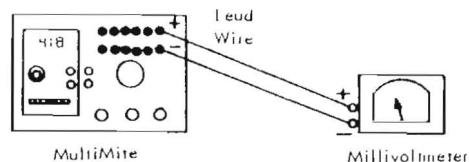

Figure 3-2. Calibrating Millivoltmeter Type Instruments with a MultiMite
- Remove the shorting wire from the millivoltmeter. Connect copper leads from one set of terminal posts on the MultiMite to the millivoltmeter. Observe polarity. (The copper leads should be 20 AWG or larger and limited to a length of 6 feet). Turn the rotary switch to the selected point. See Figure 3-2.